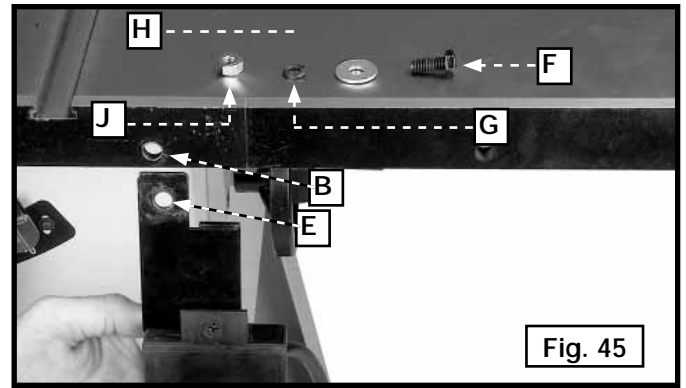

Fig. 45
Attach the switch behind the table edge with the hardware (supplied with the fence). The screw that fastens the front fence rail will secure the switch by going through the hole (A) Fig. 45 in the table edge and the hole (B) in the switch.